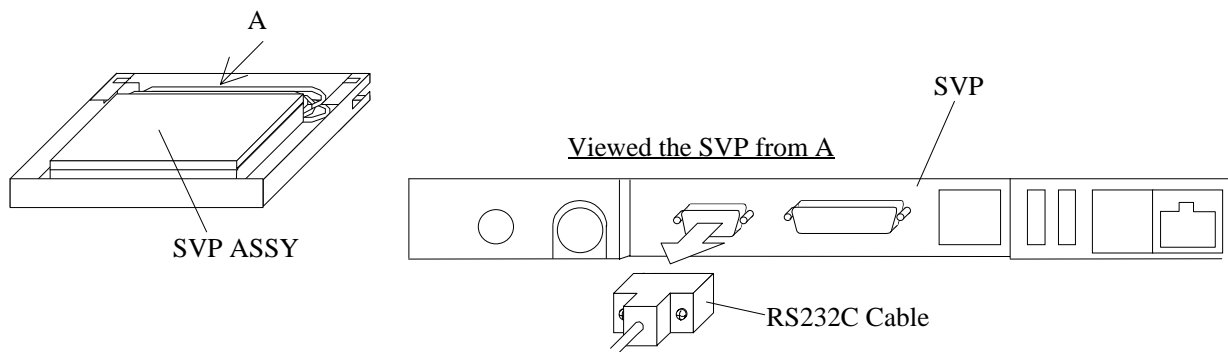

Fig. 3.15-14 Removing and installing RS232C Cable
- Attach the SVP and RS232C Cable. (See Fig. 3.15-14.)